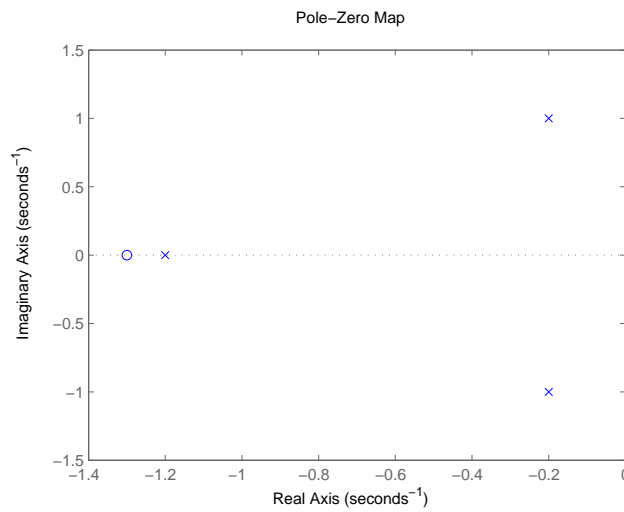

Figure 13.1 Pole-zero map of the system in Problem 13.1
13.1 Consider a SISO system for which the pole-zero map is given in figure 13.1.